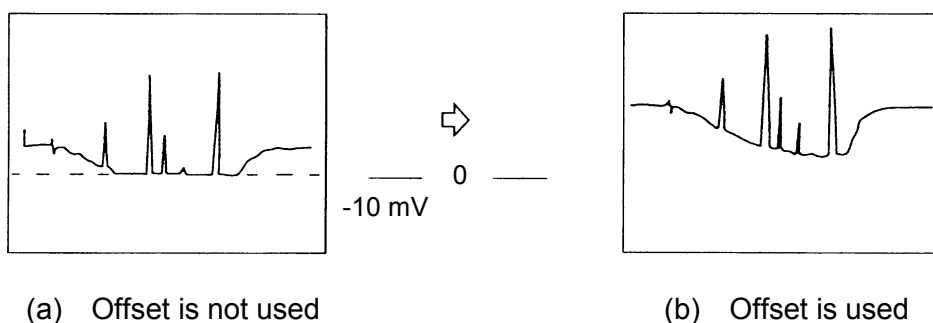

Fig. 3-2 Example of Offsetting
- Typically, the negative input limit for an integrator or data processor is approximately -10 mV. If the baseline decreases below this level, it becomes impossible to integrate the peaks in the chromatogram (see Fig. 3-2 (a)). In such a case, the offset function is used to adjust the shifted baseline to the allowable input signal range of the data processor (see Fig. 3-2 (b)).